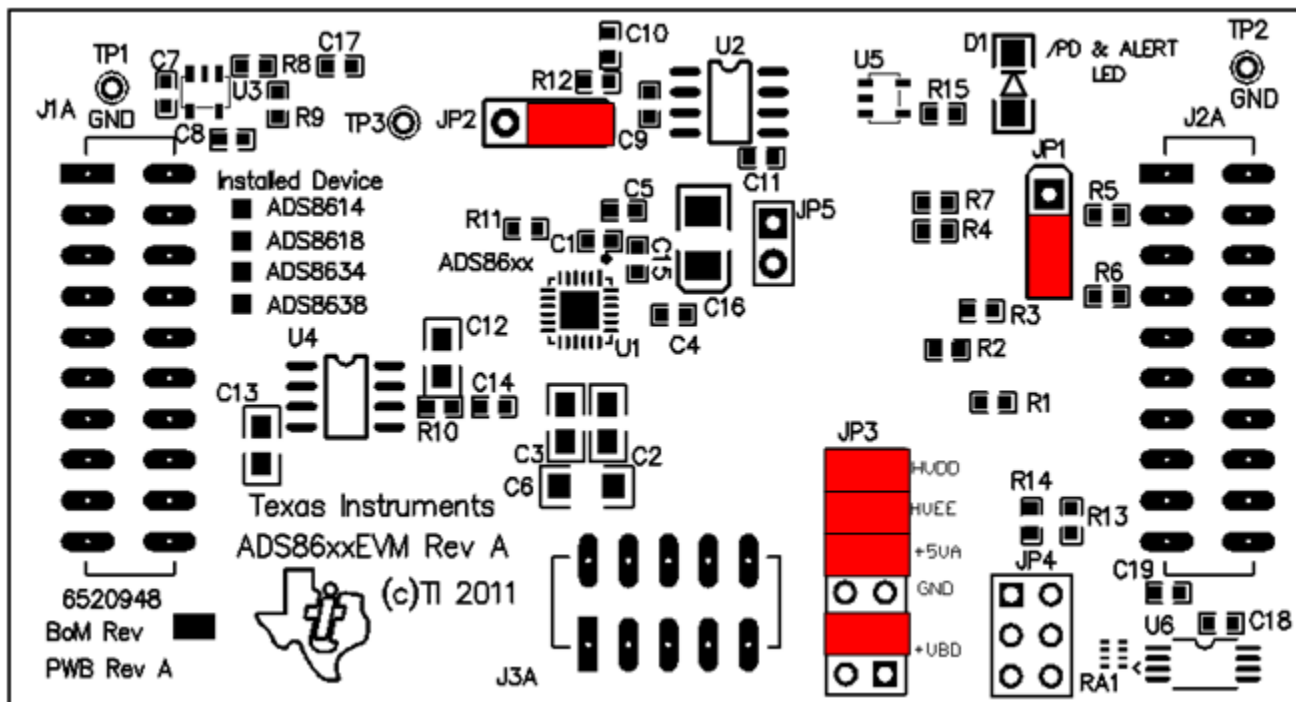

Figure 1. ADS8638EVM Default Jumper Locations
Figure 1 shows the jumpers found on the EVM and the respective factory default conditions for each.
Step 4. Set the jumpers on the ADS8638EVM as shown in Figure 1 (note that these settings are the factory-configured default settings for the EVM).